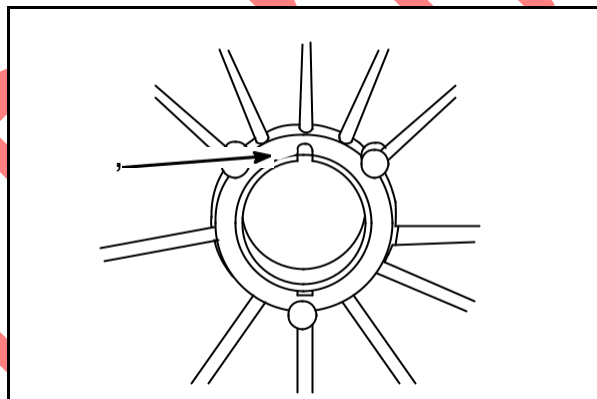

Fig. 8
Stake bearing in top notch (2) with $\frac{1}{8}$ " round pin punch to prevent bearing from turning, **Fig. 8**.